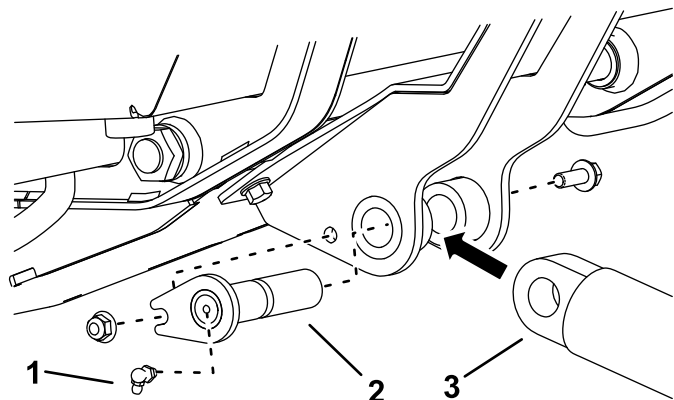

Figure 6
7. Mount the loose end of the hydraulic cylinder to the cylinder-support assembly with the cylinder-mount pivot pin, bolt (3/8 x 1 inch), and nut (3/8 inch) as shown in Figure 6.
8. Thread a grease fitting into the end of the pivot pin as shown in Figure 6.